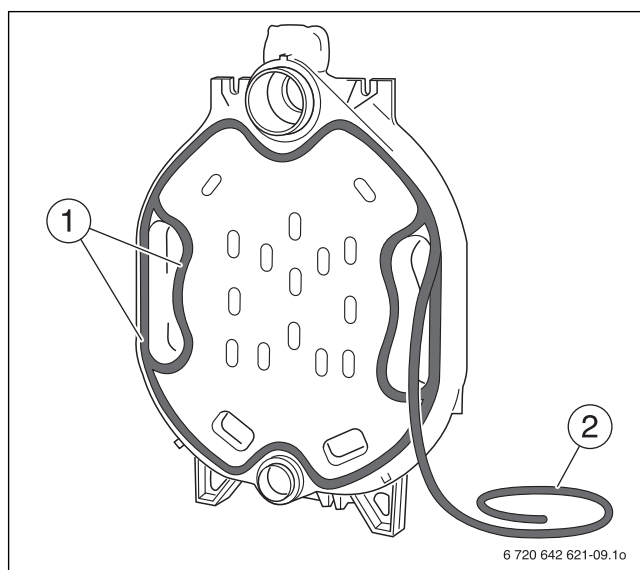

Fig. 13 Inserting sealant rope
- ▶ Insert the flexible sealant rope (→ Fig. 13, [2]) on the front of the rear section, starting around the upper hub, into the packing grooves (→ Fig. 13, [1]) and press in lightly. At the butt joints, overlap the sealant rope by approx. 2 cm and press firmly together.